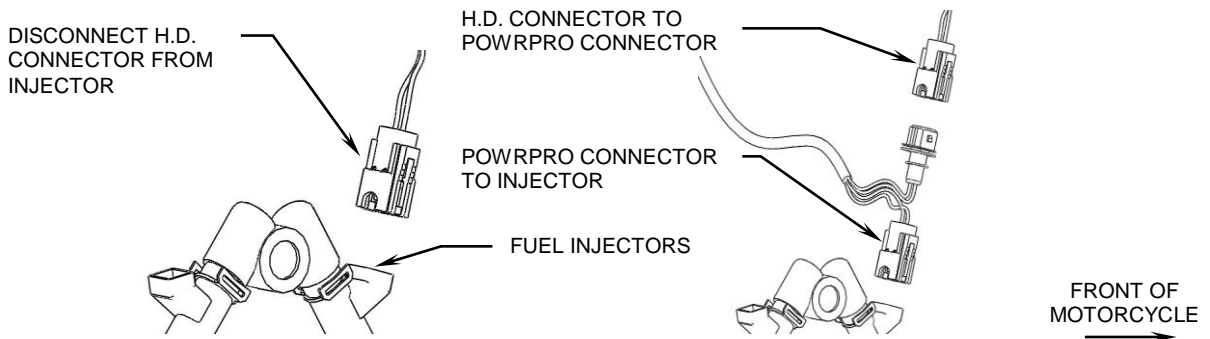

FIGURE 2
3. Locate the factory connector on each fuel injector. Depress the clips on the connector and pull the connector free and move it out of the way. **Note:** A pair of needle nose pliers and a long flat blade screwdriver helps with this job, see Figure 2.
4. Attach one pair of Fi2000 module's injector plugs labeled "FRONT" to the front injector. Take the original female H.D. connector and insert the corresponding Fi2000 male connector into it, refer to Figure 2.
5. Attach the Fi2000 module's rear female injector plug, onto the rear injector. Then take the original female H.D. connector and insert the corresponding male Fi2000 connector, into it. (See Figure 2)